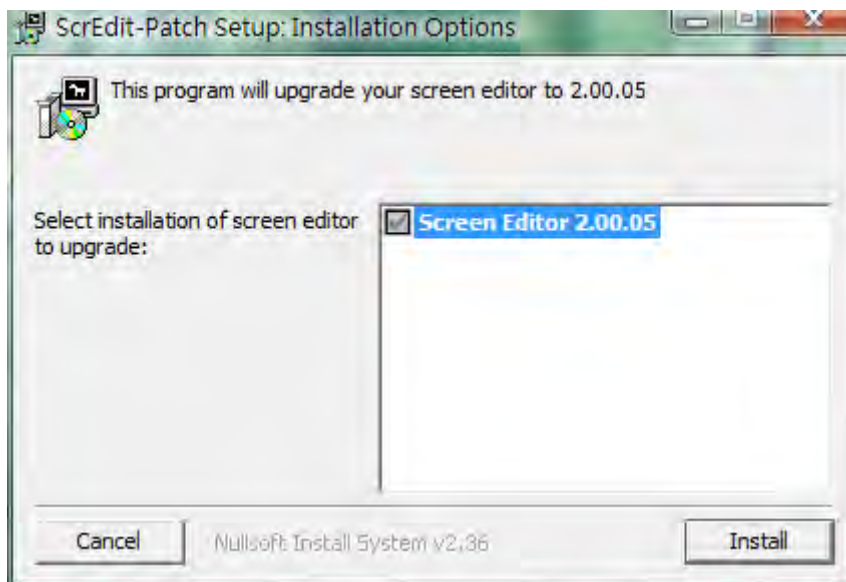

Fig. 3-1-8 Install Patch_DOPB_yyyymmdd
Step 1: Click Patch_DOPB_yyyymmdd directly under Windows and the system will start the installation (Fig. 3-1-8). The user can click **Install** button to upgrade your Screen Editor.